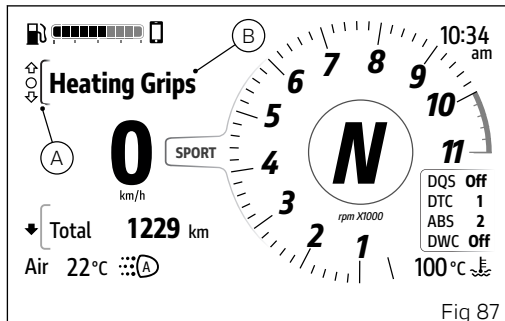

Fig 87
- Select the Interactive Menu (A, Fig 87) by pressing and holding button (1) pressed for a long time.
- Use buttons (1) and (2) to select item "Heated Grips" (B, Fig 87) and press the ENTER button (3).